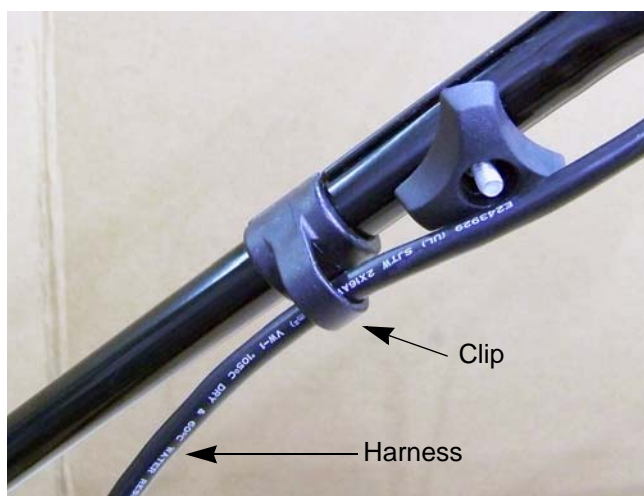

Figure 2.18
4. Slip the harness out of the clip on the right side of the middle handle. See Figure 2.18.